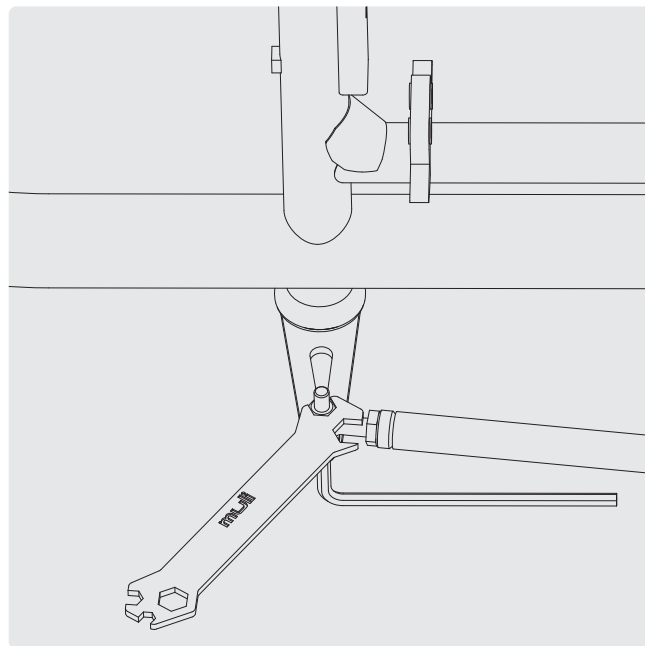

FIG. 11
- 2 Tighten the counter nut with a 0.24" (6 mm) Allen key and a 0.5" (13 mm) open-end spanner such that the handlebars can be easily turned (Fig. 11).